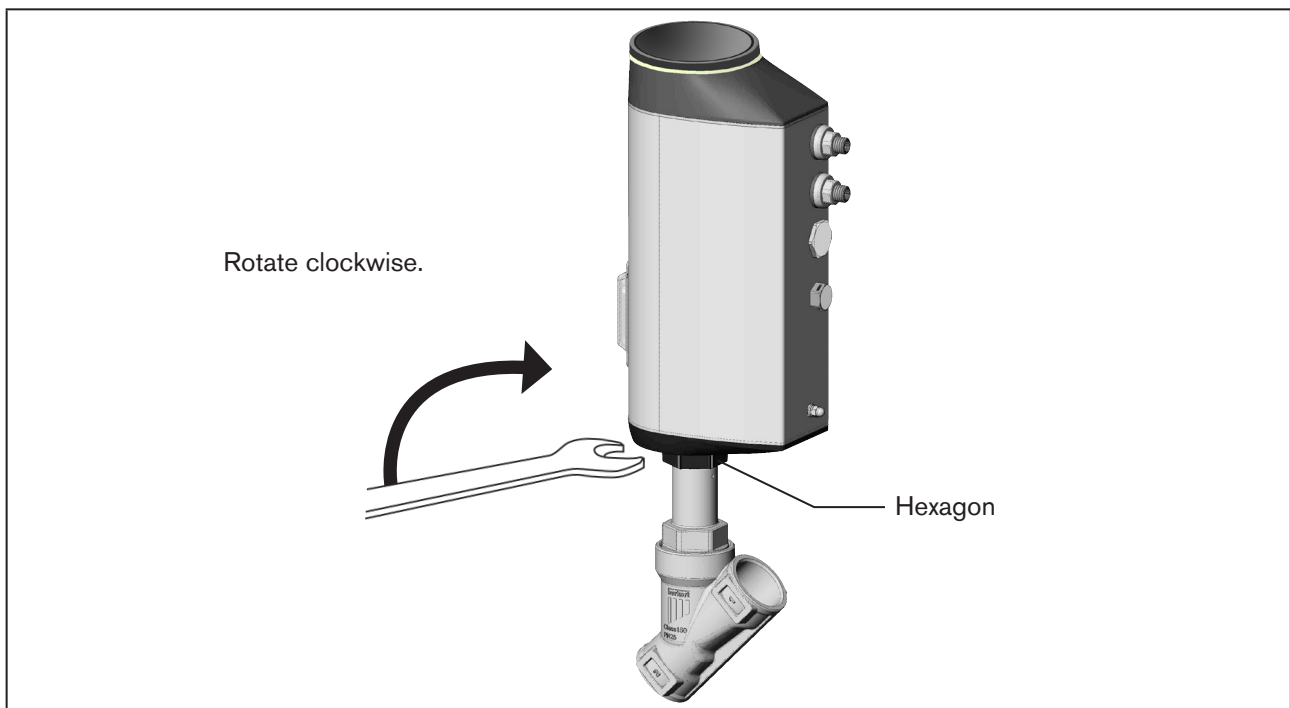

Figure 13: Rotating the actuator
- ▶ Rotate actuator in the indicated direction only (see "Figure 13: Rotating the actuator").